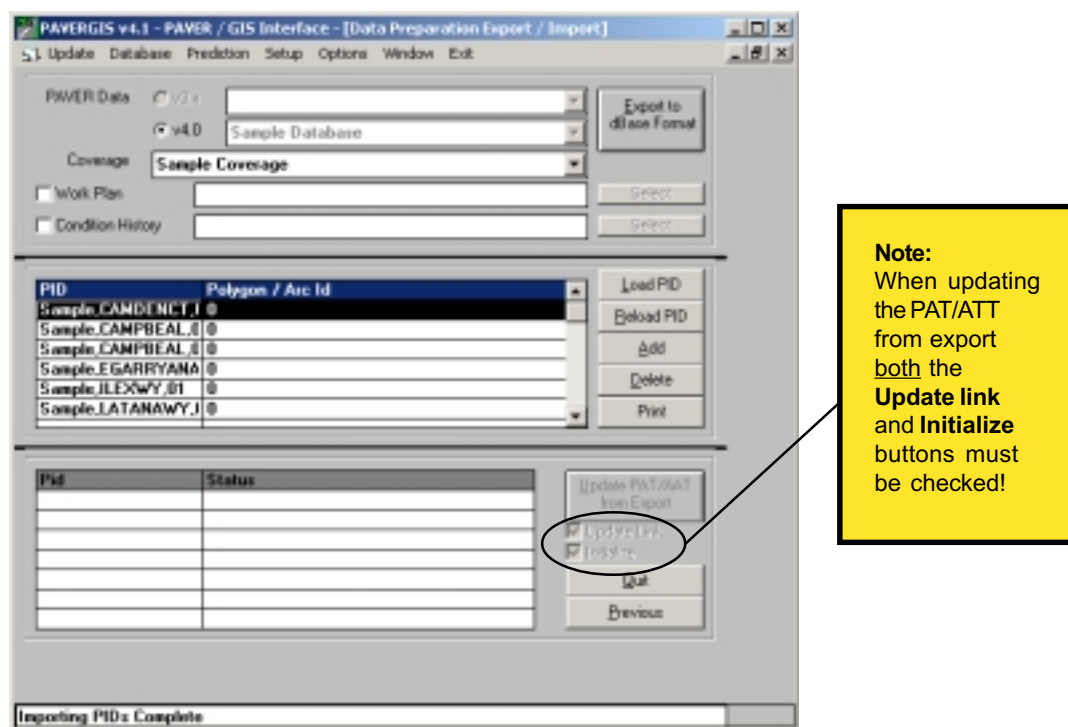

Figure 7
- (6) In the PAVER Data window click the v4.0 button and in the adjacent drop down list locate the PAVER database file that is labeled with the description of the database you wish to link (figure 7).